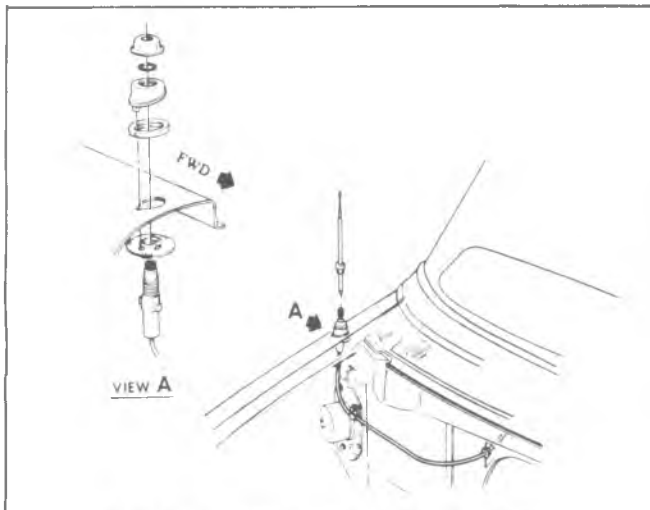

Fig. 9-18R--Antenna Installation (G Models)
**G Models****Antenna Replacement (Fig. 9-18R)**
**Cable Assembly Replacement (Fig. 9-18R)**